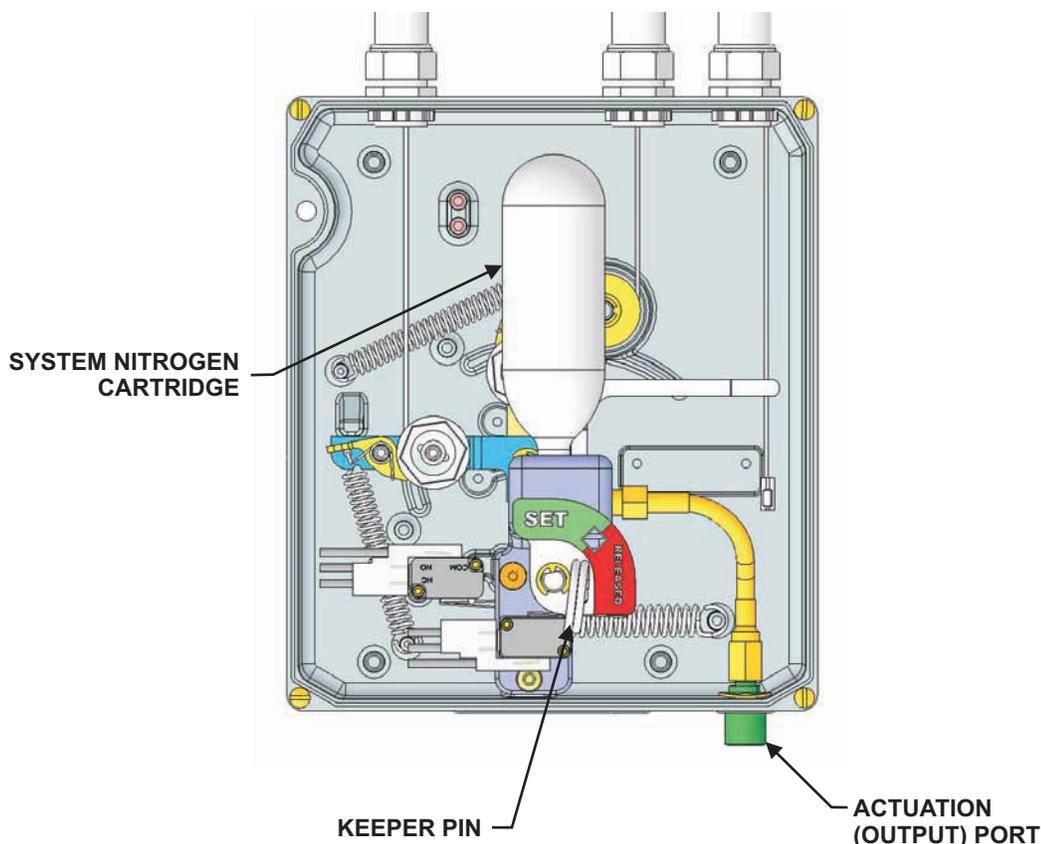

Figure 5-3. Universal Control Head, Internal View
3. Remove the cover from the Universal Control Head. Install Keeper Pin (P/N 9197108). See Figure 5-3 for Keeper Pin location.
4. Remove the System Nitrogen Cartridge (P/N B120043). Refer to Figure 5-3 for location in Universal Control Head.
6. Verify installation of the lockout screws for appropriate usage (refer to Figure 5-3).
Note: The Keeper Pin should be in place; therefore, the Cam/Flag will not require resetting (refer to Figure 5-3).